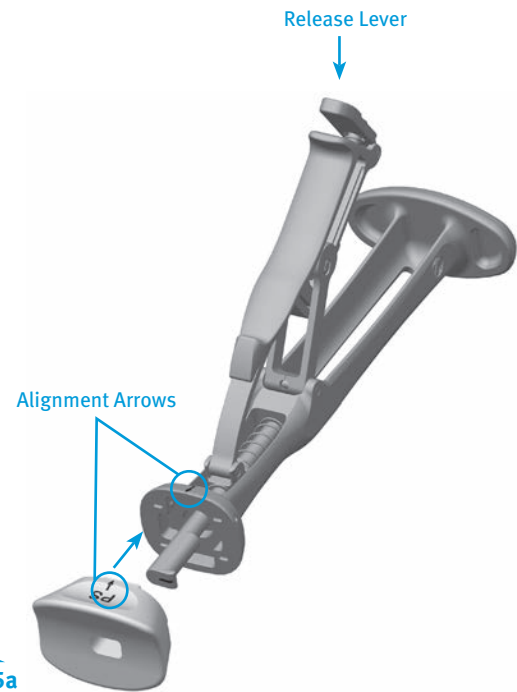

Fig. 75a
- Assemble the Femoral PS Impactor Pad to the Femoral Inserter/Extractor. Hold the Femoral Inserter/Extractor, with the handle in the open position and insert the Femoral PS Impactor Pad, aligning the "PS" on the Femoral PS Impactor Pad with the arrow on the Femoral Inserter/Extractor (Fig. 75a). The Femoral PS Impactor Pad is keyed, so the Femoral PS Impactor Pad may have to be rotated while placing and aligning the Femoral PS Impactor Pad onto the Femoral Inserter/Extractor.